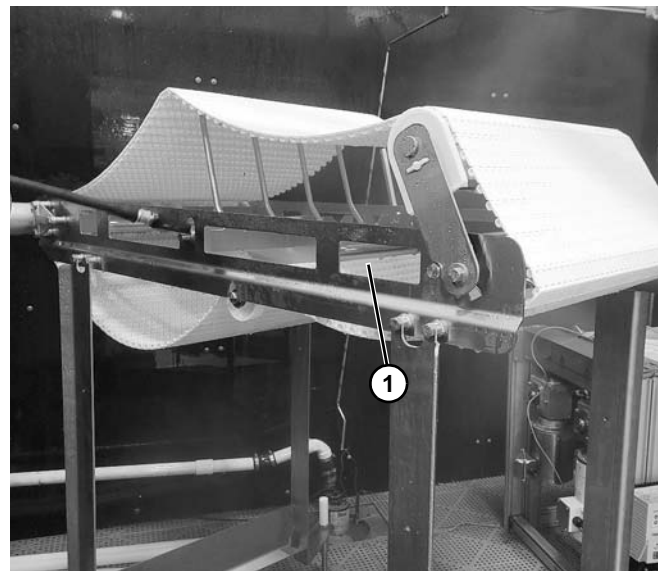

Figure 9
- e. Inside of conveyor frame and belt (**Figure 9, item 1**).